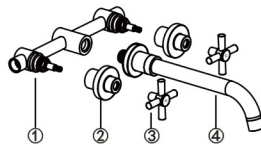

Figure 2
2. Remove the handle subassembly, the decorative cover subassembly and the spout subassembly separately from the main body of the faucet (Figure 2).